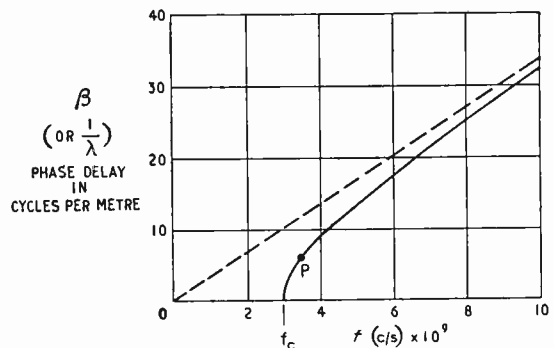

Fig. 5. Graph of phase delay per metre length of a 5-cm-wide waveguide against frequency. The corresponding graph for empty space is shown dotted.
Because $v_p = f/\beta$, if we plot β against f as in Fig. 5, the phase velocity at any frequency is proportional
to the reciprocal slope (that is, the slope looking at Fig. 5 on its side, with the f scale vertical) of the line drawn from the origin (0) to the point on the graph representing that frequency. If β is exactly proportional to f , the graph is a straight line passing through the origin, as for example the dotted line in Fig. 5; and this of course represents the same v_p at every frequency. If you use the scales to calculate it for this particular straight line you will find it is 300,000,000 metres/sec, so it is our old friend c . The dotted line is, in fact, the phase/frequency characteristic of open space, or very nearly of an air-spaced r.f. line. The time delay per unit length, being β/f , is also the same at all frequencies. This sounds like a good idea, because all the parts of a signal made up of a number of frequencies would take the same time to traverse a given distance, so wouldn't become separated or disarranged en route. But more of that later.
By contrast a waveguide, as we saw (Fig. 2), transmits different frequencies at different speeds. As an example I have plotted $1/\lambda$ against f for a waveguide 5 cm wide, for which λ_c is of course 10 cm and f_c is 3×10^9 c/s. This is the full line in Fig. 5. Although it is possible to derive an equation for $1/\lambda$ in terms of f , it is much easier to calculate both for a series of values of θ , using the simple relationships we have already found. Again we must remember that the λ in $1/\lambda$ is the wavelength of the resultant wave pattern that progresses along the guide with velocity v_p , not—like λ_c —a wavelength of the zigzagging components.
As we would expect, this curve only begins at 3×10^9 c/s, because waves of lower frequency cannot travel at all along a 5-cm guide. Calculating the phase velocity exactly at this frequency from $v_p = f/\beta$ we find it is infinitely large, as we have already noted in a different way in Fig. 2, and as we can see from Fig. 5 because the reciprocal slope from 0 to that point is infinite. But as the frequency increases β increases rapidly, so v_p falls accordingly. At very high frequencies the curve tends to follow the dotted line, implying that v_p approaches the value c . This again is as we saw in Fig. 2.
It is not only obvious, but actually true, that if (a) and (b) travel at the same speed, as they would in open space, then the groups in (c) travel at that speed. But Fig. 5 shows us that no two frequencies travel along a waveguide at exactly the same speed. However, the higher the frequency the more nearly the velocities of two nearly-equal frequencies are the same. And Fig. 2 shows us that at very high frequencies (large θ) the group velocity v_g tends to equal v_p . Near the critical frequency, on the contrary, v_p varies rapidly with frequency, becoming less the higher the frequency. To represent this we have to imagine that Fig. 7(b) gains on (a) as it moves along. Where originally b_1 coincided with a_1 to give a group peak (c_1), b_2 comes alongside a_2 to bring the peak of the group behind c_1 . The greater the difference in speed of the component waves, the more the group outlines or envelopes drop back in the race; in other words, the less the group velocity.
This is in effect what is proved in the textbooks, usually in a more complicated way. The first form is convenient if one knows the velocities at the two frequencies concerned, but the others are given more often because (as in Fig. 5) the phase delay per unit length ($1/\lambda$ or β) is commonly specified.
You will notice that these formulæ say that the group velocity is equal to the *difference* in frequency divided by the *difference* in phase delay. (We have already seen that the phase velocity is equal to the frequency divided by the phase delay.) If the graph of phase delay against frequency (e.g., Fig. 5) is a straight line, at least over the range of frequency concerned, then v_g is constant over that range. But in general it is not, so the custom is to take infinitesimal differences and express the thing in the more official form:
In the December 1957 issue, p. 584, Thomas Roddam predicted that sooner or later I would probably deal with the question of the two different delay characteristics. In this he was perfectly right, for we have arrived exactly there. In Fig. 5 the point P, for example, expresses the fact that for a 5-cm rectangular waveguide an input at 3.47Mc/s causes a phase delay of 5.78 cycles per metre of length. And because the reciprocal slope of a straight line joining P to O is twice that of the dotted line, we now know that the phase velocity is $2c$. (Or without the dotted line we can calculate it direct as 6×10^8 m/s.) And we have further seen that the reciprocal slope of the curve itself, which at P happens to be half that of the dotted line, tells us the
The interesting and remarkable thing is that we arrived at the conclusion that the velocity of a group or signal waveform at any frequency is equal to the slope of the β/f curve at that frequency *without any reference to waveguides* or any other particular channel or medium. We arrived at it with the aid of Fig. 7, purely by considering the two sets of waves composing a group to be travelling at slightly different speeds. But when we apply it to the point P on a curve in Fig. 5, plotted for a particular waveguide, we find that the velocity so calculated is the same as the velocity with which we reckoned energy would flow along that guide, by considering the zigzag process in Fig. 3. This is not just an odd coincidence for the particular point P; you will find it holds good for every point on the curve in Fig. 5. More, you will find it holds good for every point on the curve for every other waveguide. And because the calculation based on Fig. 7 is quite general, it holds good for *any* link in which velocity varies with frequency, waveguide or no. Next month we shall look into some of the other dispersive systems, and see why they are so called.